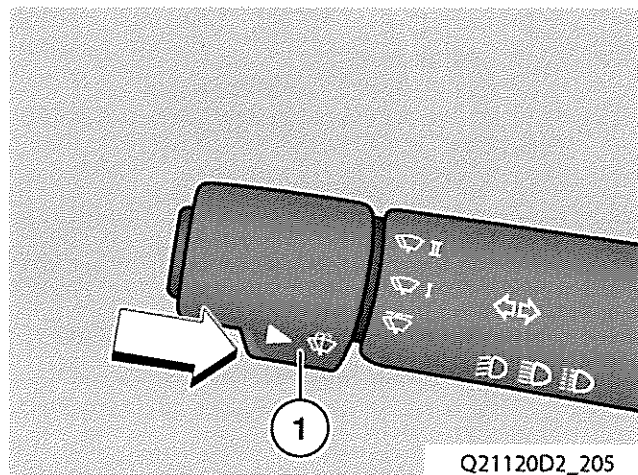

Fig 39 Washing the windscreen
88 Refer to Fig 39. For a single wash and wipe, briefly press the handle (1) to the stop.